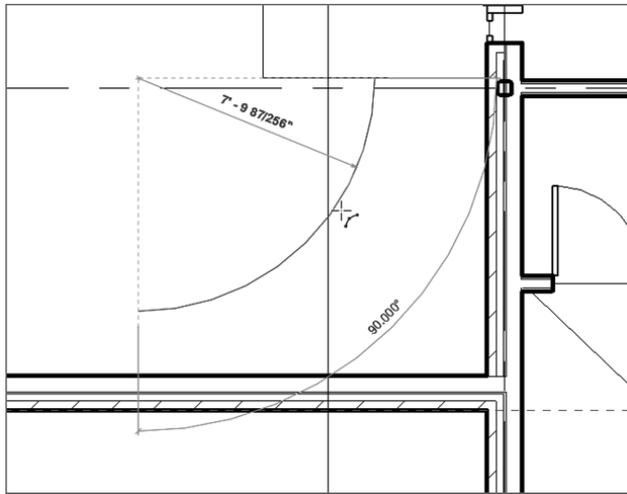

FIGURE 10.36: Picking the third point to form the arc. It will be tangent upon the first two points you picked.
6. Extend your cursor $11'-0''$ (3300 mm), as shown in Figure 10.36, and then click to set the second point.
7. To form the arc, move your cursor to the right until the radius snaps into place. When it does, pick the point as shown in Figure 10.36.